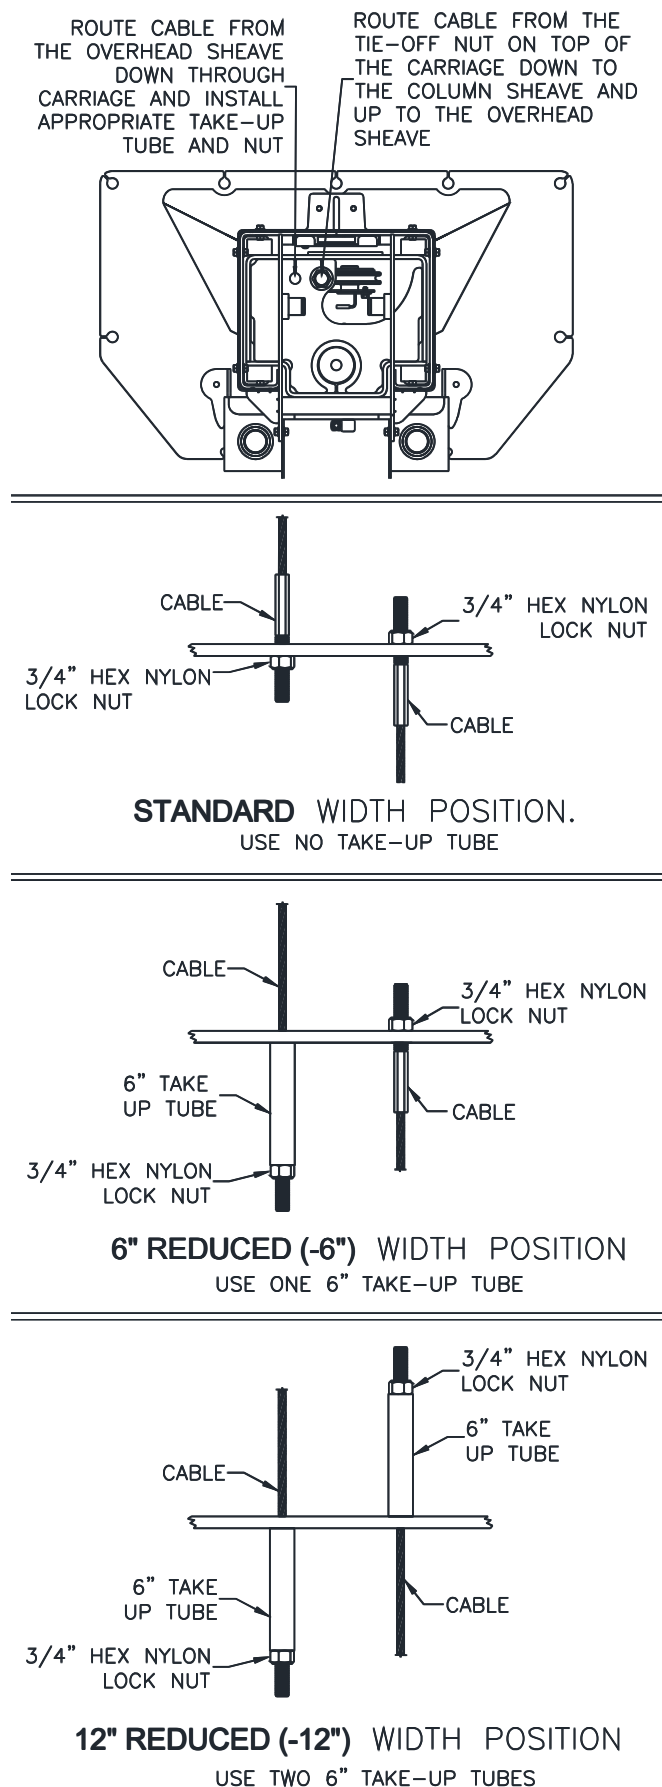

Fig. 10 – Cable Attachment At The Carriage
- 30) Mount synchronizer cables to carriages as shown in **Fig. 10**. **Note: Use the proper Take-Up Tube as shown in Fig 10 based on the width of the lift.**